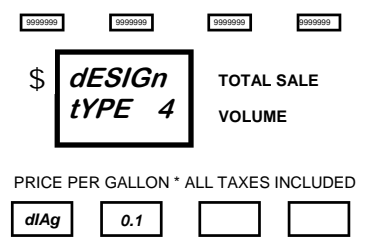

Figure D-2
0.1 - Design Type. The display shown in Figure D-2 appears. The price display shows the dispenser is in Diagnostics Level 0.1.